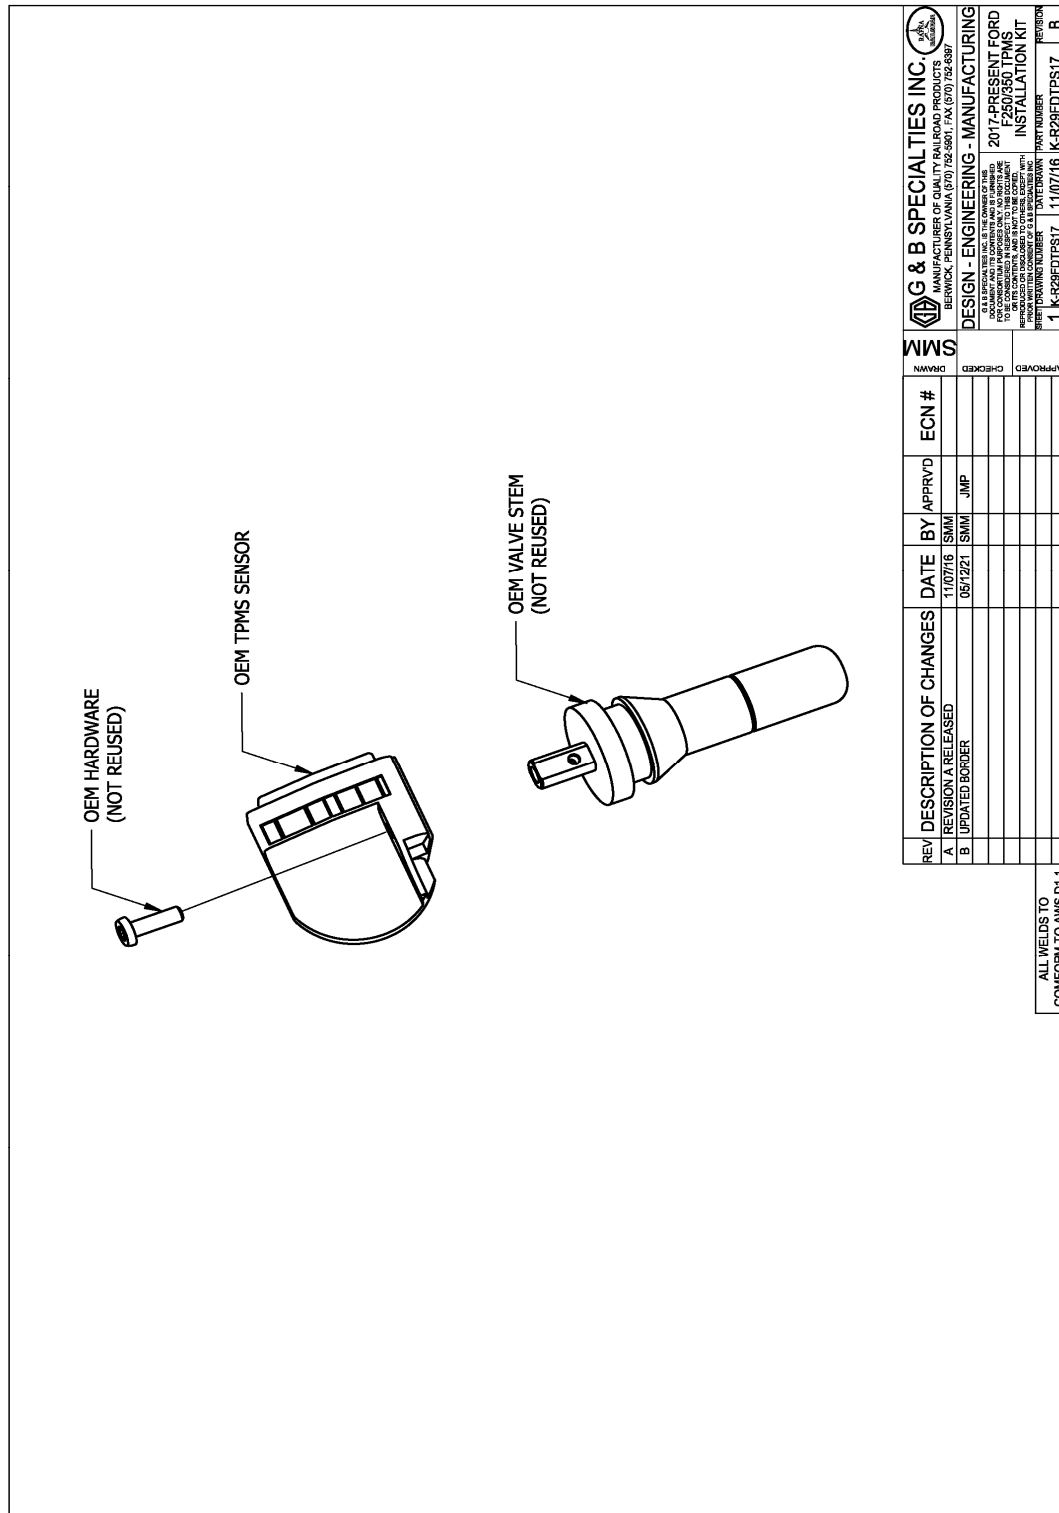

Figure 1
2. Remove the OEM valve stem from the OEM TPMS sensor, by removing the screw securing the valve stem to the sensor, as shown. The valve stem and screw will not be reused. (Figure 1)